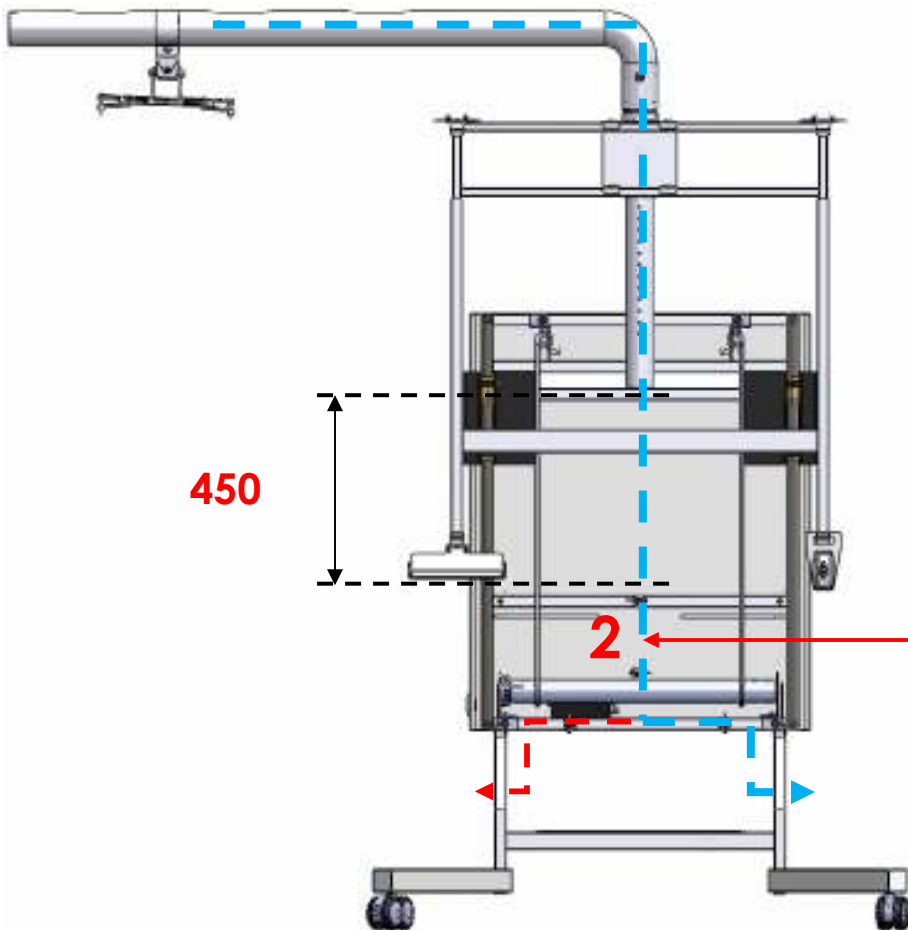

Figure 15.2
- 1) Cable wiring start from Top Arm (1). When reached Vertical Tube (2), extend wire length additional 450 mm. The additional wires is used for the front frame rise to the highest level. (see figure 15.2).